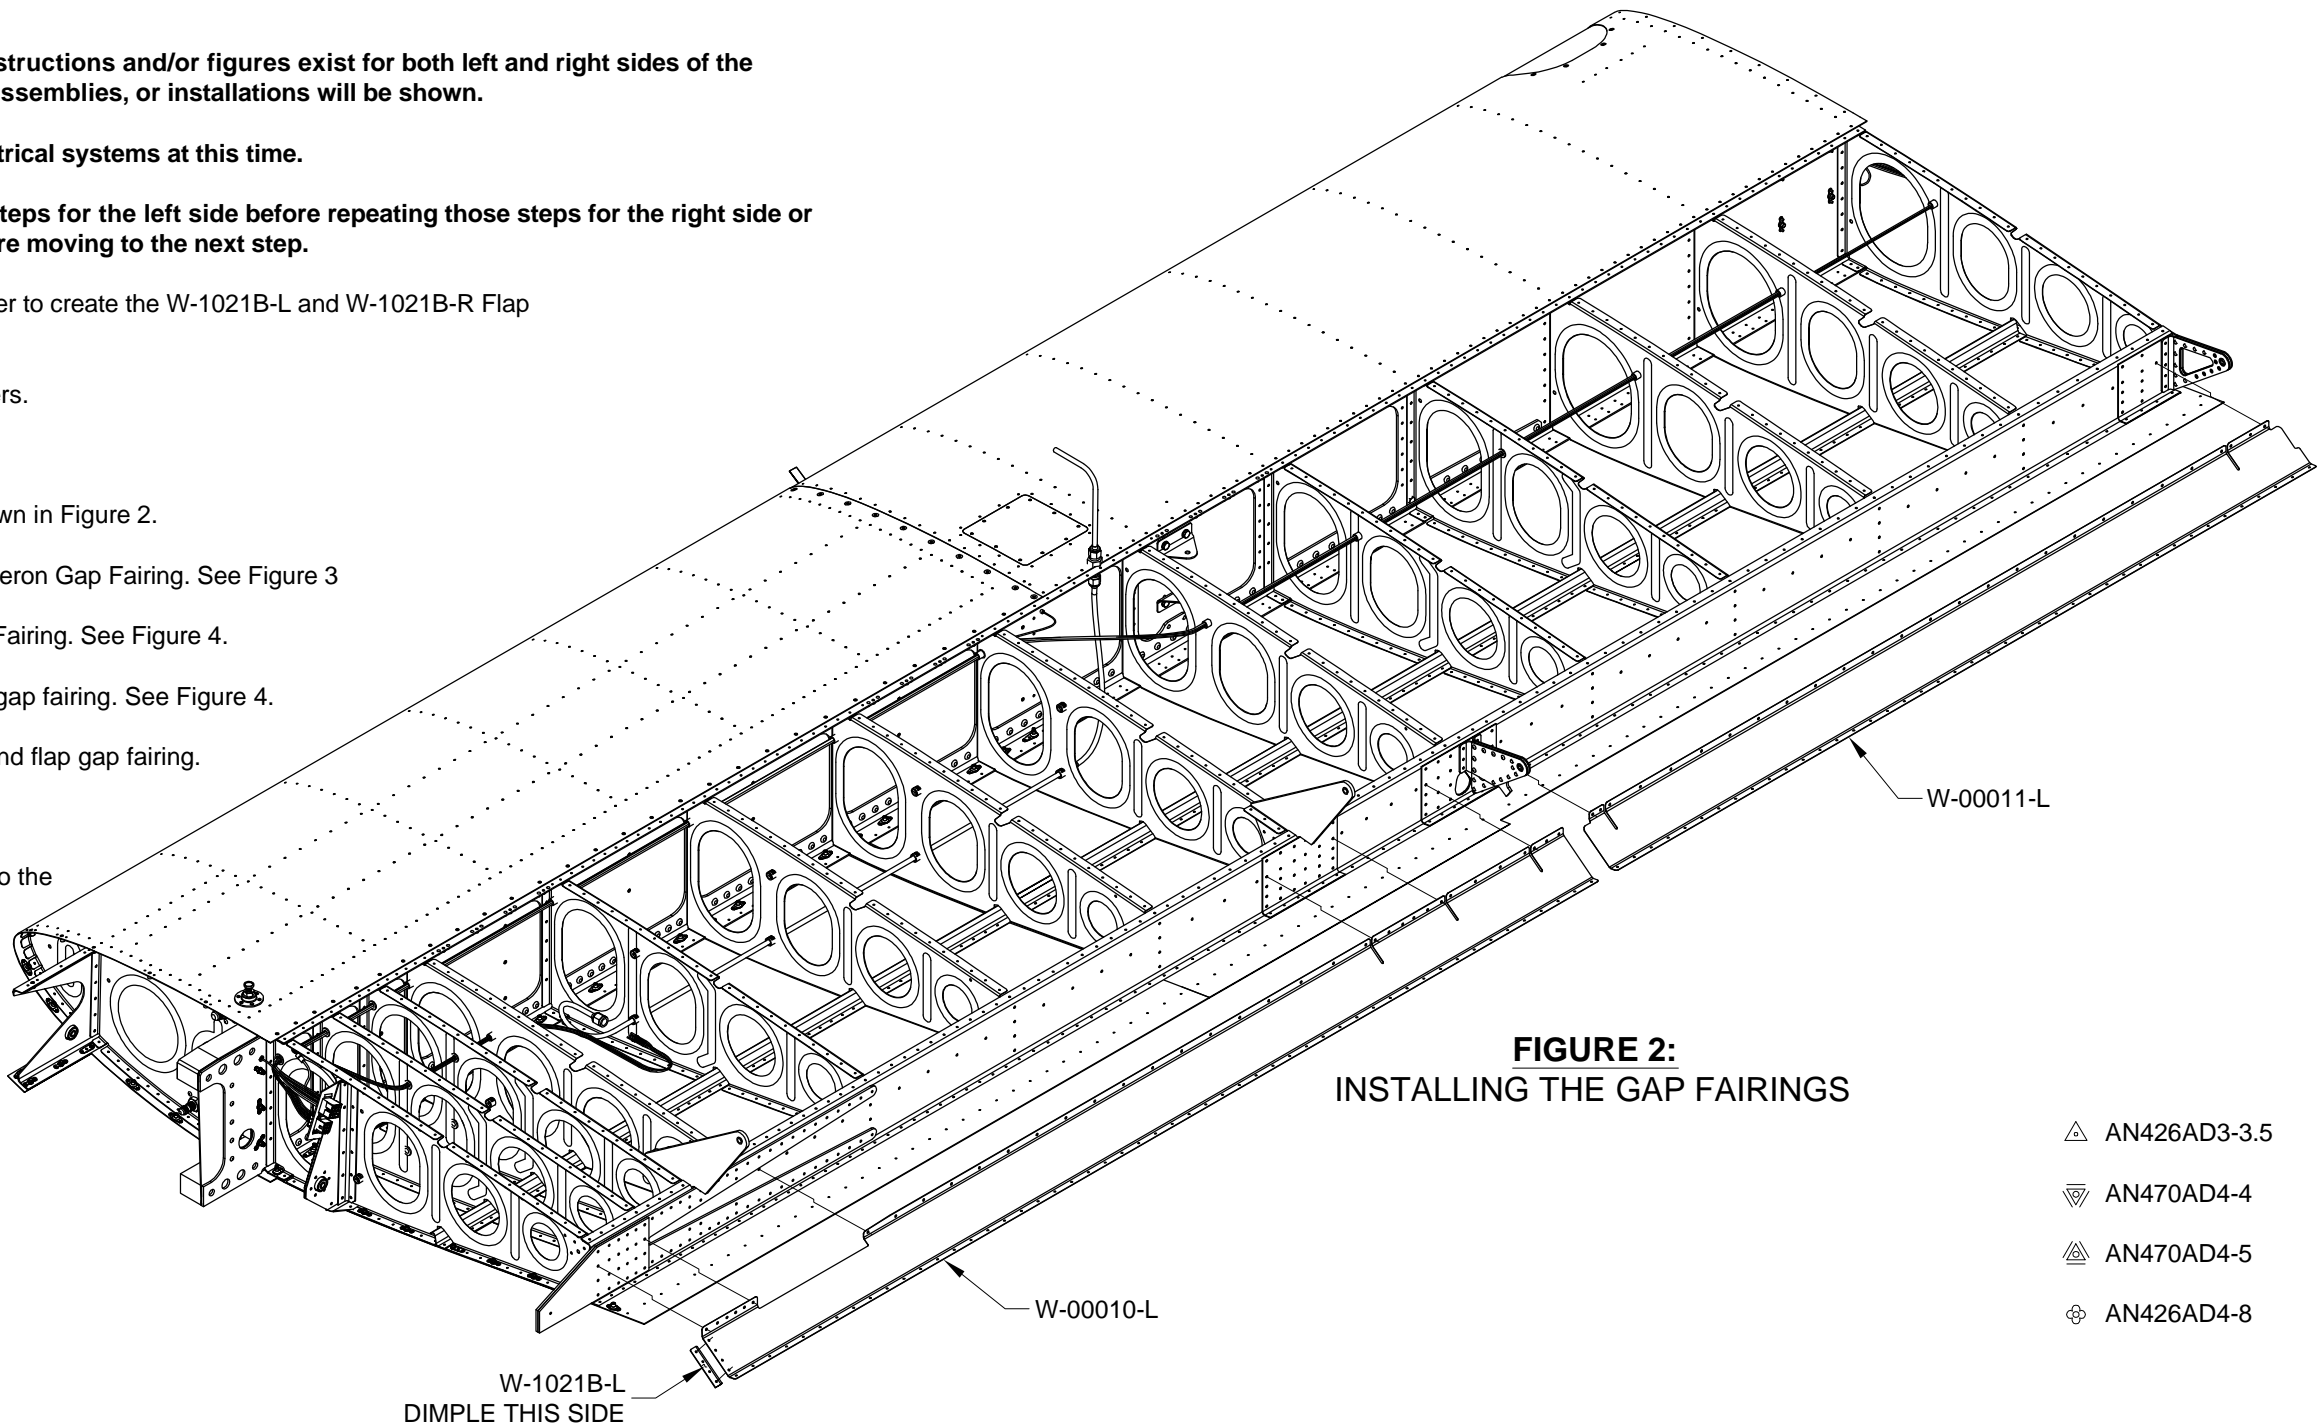

FIGURE 2:
Dimple the holes in the flap gap stiffeners from the side shown in Figure 2.
Step 4: Cleco then rivet the W-1021B-L Flap Gap Stiffener to the W-00010-L Flap Gap Fairing as shown in Figure 2 and Figure 4.